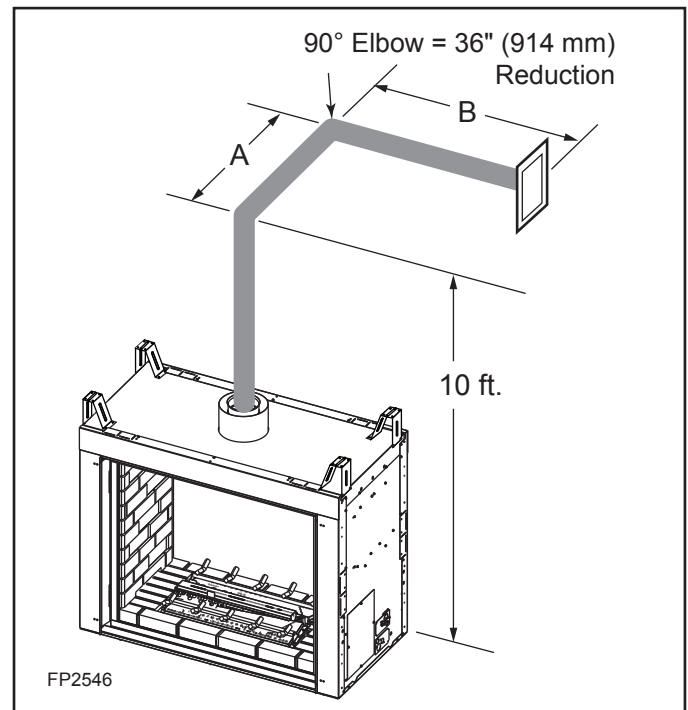

Figure 5.7 Horizontal Run Reduction
- If a 90° elbow is used in the horizontal vent run (level height maintained) the horizontal vent length is reduced by 36". Refer to Figure 5.7. This does not apply if the 90° elbows are used to increase or redirect a vertical rise.
In Figure 5.7 dimension A plus B must not be greater than 14½' (4.4 m).